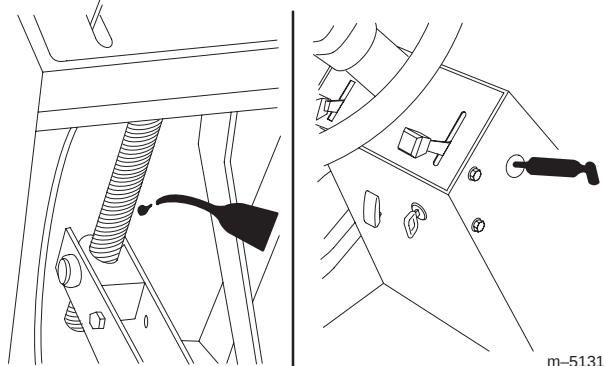

Figure 21
4. Lubricate the traction pedal bushings and steering shaft with a few drops of SAE 10W-30 oil or dry spray lube (Fig. 21).